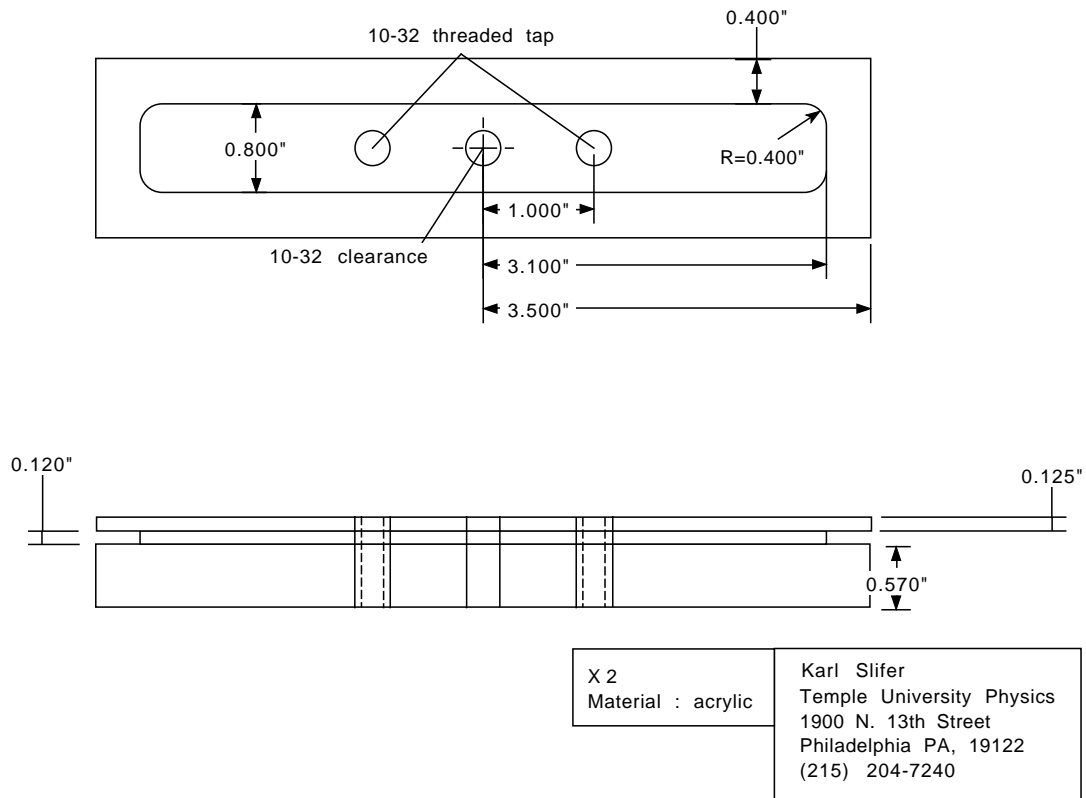

Figure 9: Design Schematic of Pickup Coils.
- The coils were wrapped on October 15, 1997 with 28 AWG wire. There are 21 layers with 8 turns per layer. They have identical impedance, 4.83mH, with a Q of 67. The dimensions are detailed in Fig. 9